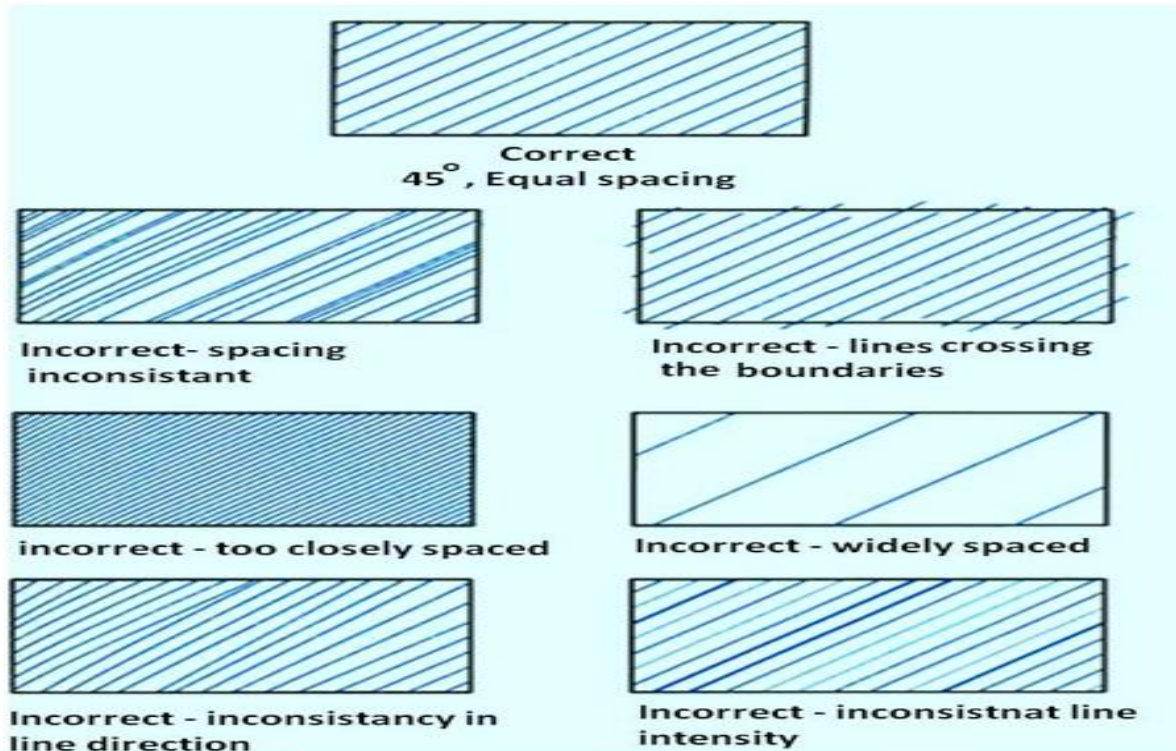

Figure 16. Representation of section line.
- Also, do not run *section* lines beyond the visible outlines or stop them too short. The correct and incorrect method of drawing section lines are shown in figure 16.